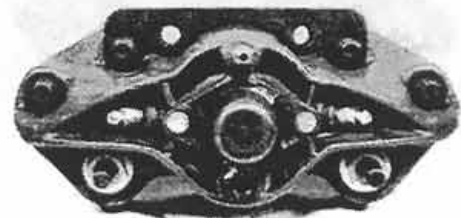

Figure 5:
3. Remove the brake pad retainer pins and brake pads (Fig. 5).